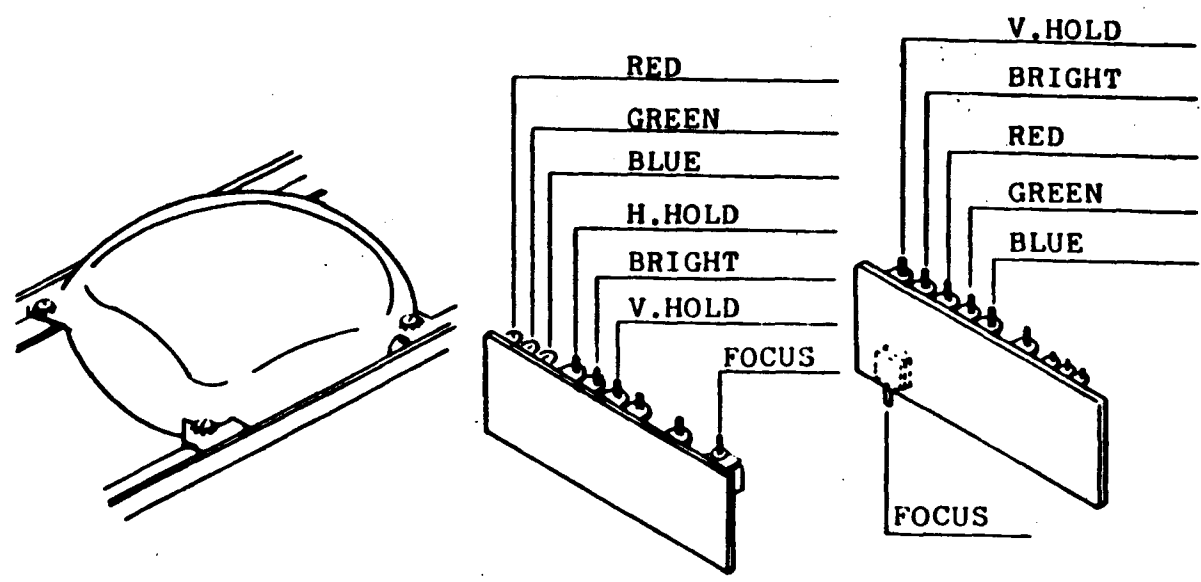

FIGURE 6
8. Adjustments on Color Video Monitor (See Fig. 6)